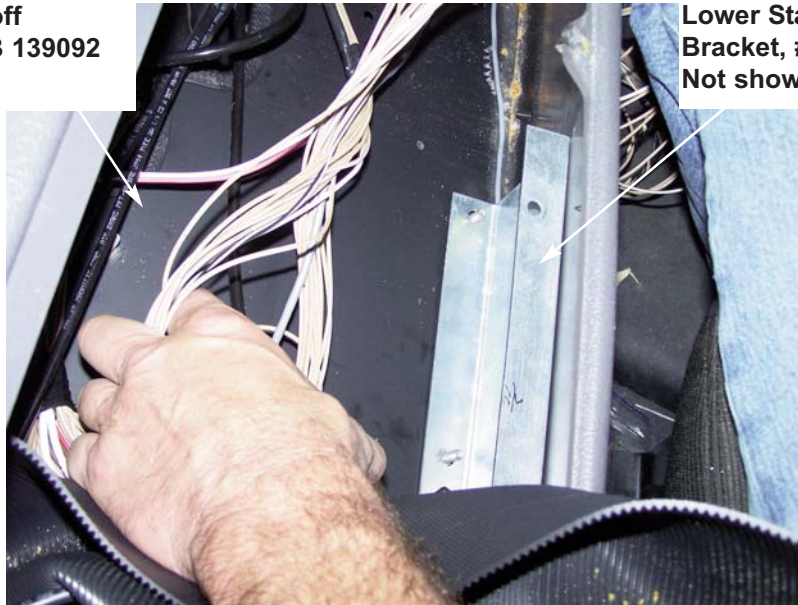

Figure 2
6. Install the Upper Stand-off Bracket, #TBB 139092 and Lower Stand-off Bracket, #TBB 139093 using existing fasteners removed in **Step 4. Figure 2**